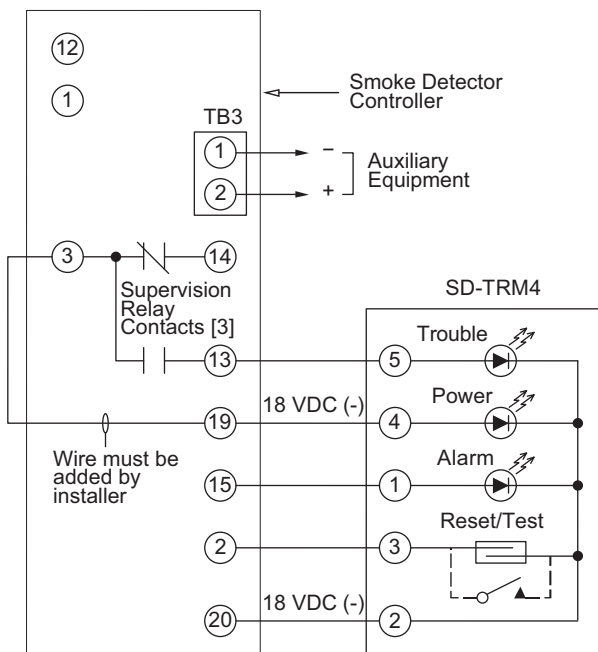

Fig. 54 — Remote Test/Reset Station Connections
The test/reset station dirty sensor test checks the test/reset station's ability to initiate a sensor dirty test and indicate the results. It must be wired to the controller as shown in Fig. 54 and configured to operate the controller's supervision relay. For more information, see "Dirty Sensor Test" on page 38.
1. Verify that the remote test/station is wired as shown in Fig. 54. Repair or replace loose or missing wiring.